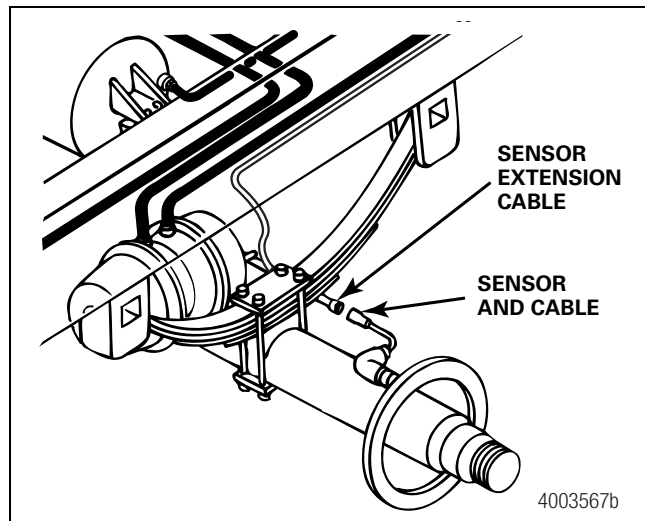

Figure 5
- Connect the sensor and cables on the prepped axles to the sensor extension cables. Figure 5.
- Route the sensor cable along the back side of the trailer axle to the ECU/single modulator valve assembly. Route the cable with the brake hose. Figure 5.